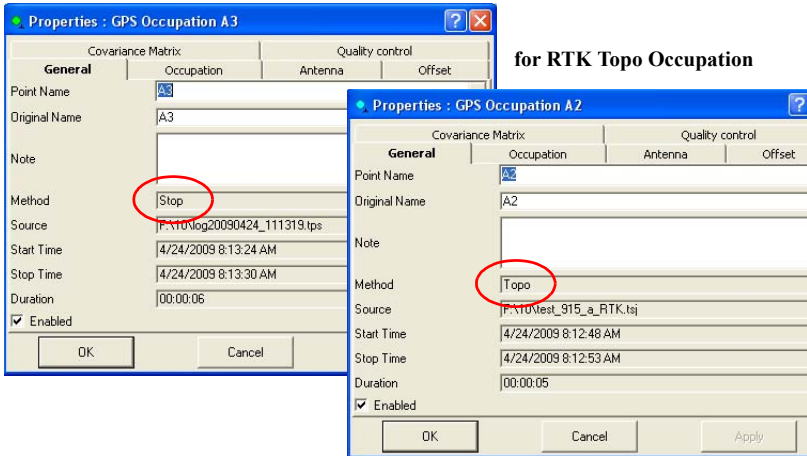

Figure 5-101. General Properties
2. View or edit *General* tab fields (Figure 5-101 on page 5-66). The fields vary, depending on the type of occupation selected.